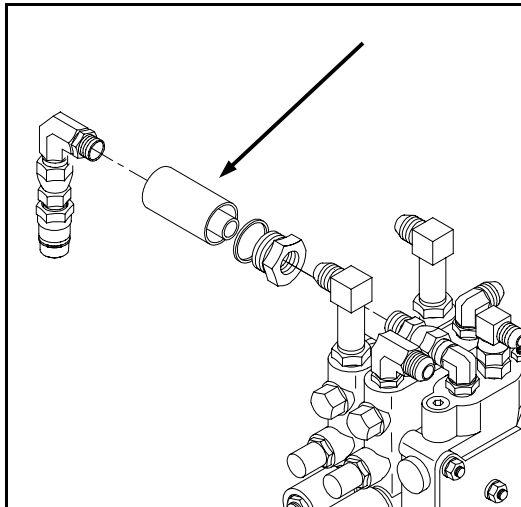

FIG 4.2
**OUTRIGGER FOLD VALVES** - The valves on the outrigger fold valve are protected by a 90 Micron in-line sintered bronze filter (fig. 4.2).